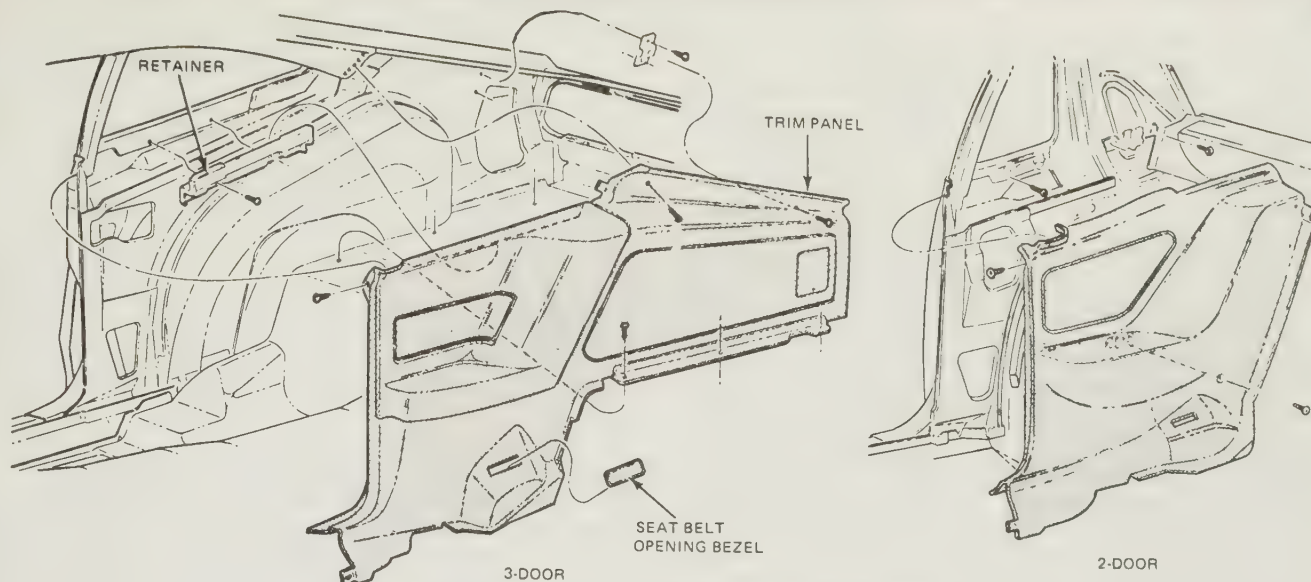

Fig. 12.20. Rear quarter trim panel installation (Sec. 38)
- 4 Refer to Fig. 12.20 and remove the trim retaining screws (six on the Hatchback, two on the Sedan).